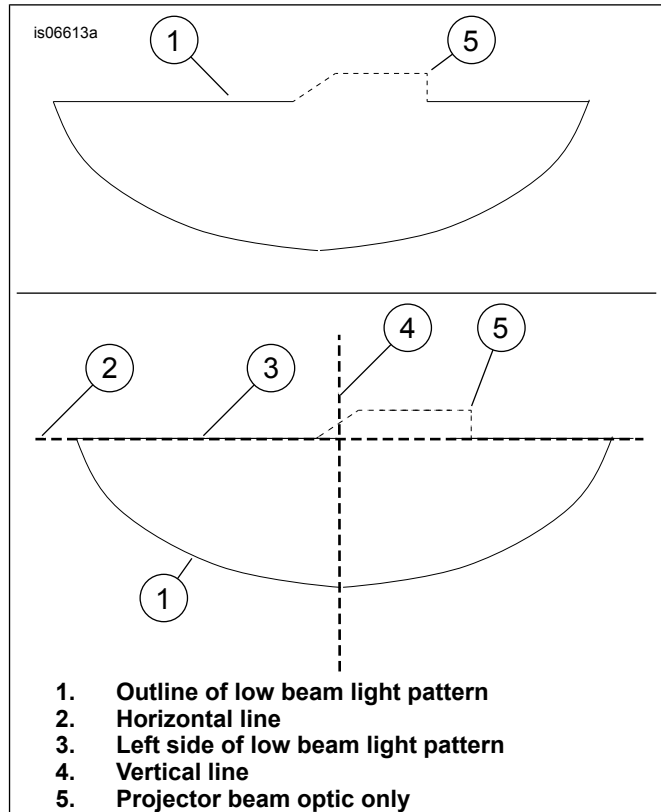

Figure 5. Alignment of Headlamp Low Beam
1. See Figure 5. Align the left side of the horizontal line of the **low beam** light pattern (3) with horizontal line (2) drawn on the wall.